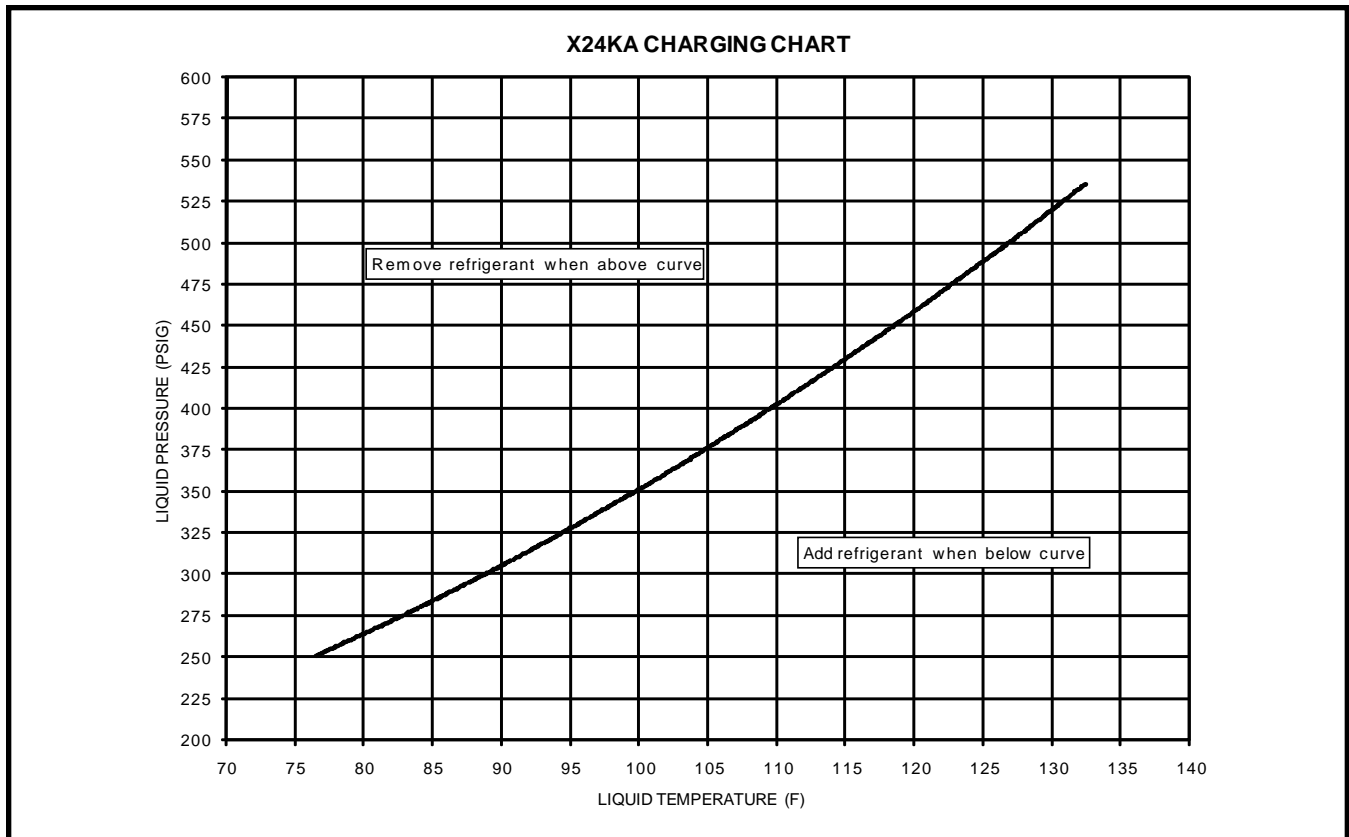

Figure 9. Charging Chart for 2 Ton Units
- To achieve rated capacity and efficiency the compressor must be exposed to refrigerant for at least 24 hours prior to running and then must be run for a minimum of 12 hours. If Charging in Cooling Mode, see Refrigerant Charging Charts (Figures 9 - 12, pages 14 & 15).